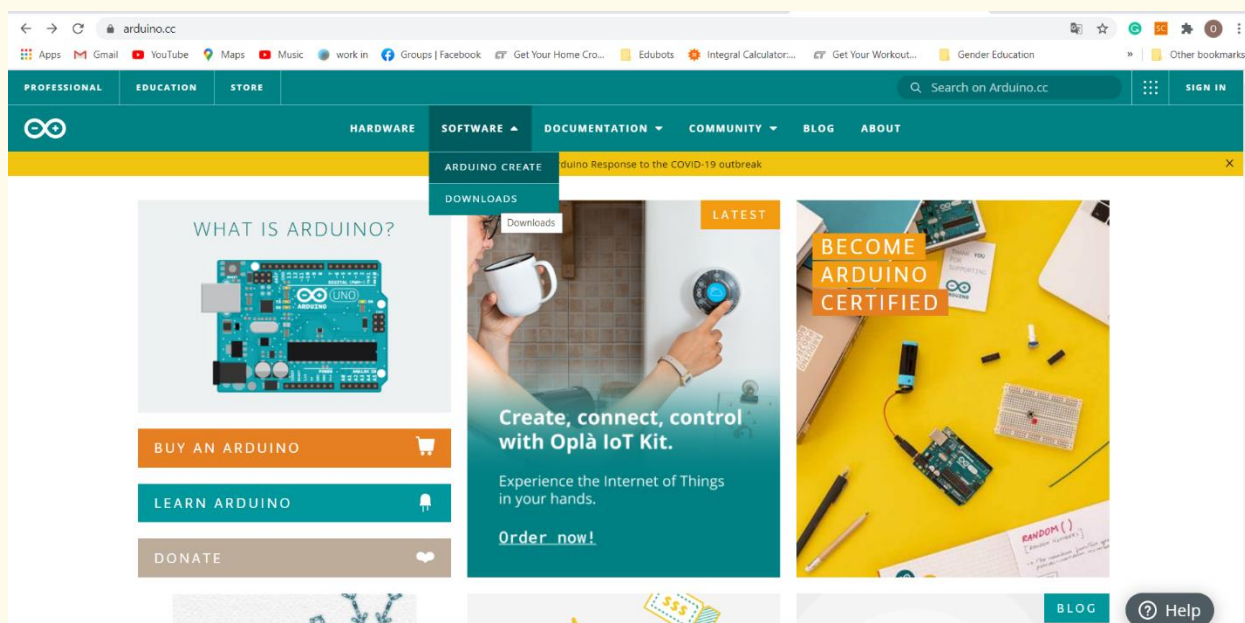

Figure 7 How to download Arduino IDE
2. Click on Software > Downloads > Arduino IDE 1.8.13 (see figure 7)